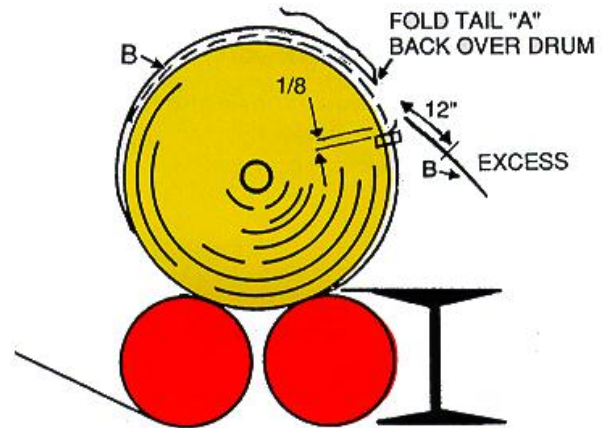

Figure 15
4. Fold new tail "A" back over top of roll. Place splice tape over roll tail "B" extending over ends to secure in place. Figure 15. Pull out roll tail "B", cut off excess and trim to extend about 1/8" over splice tape as previously described.